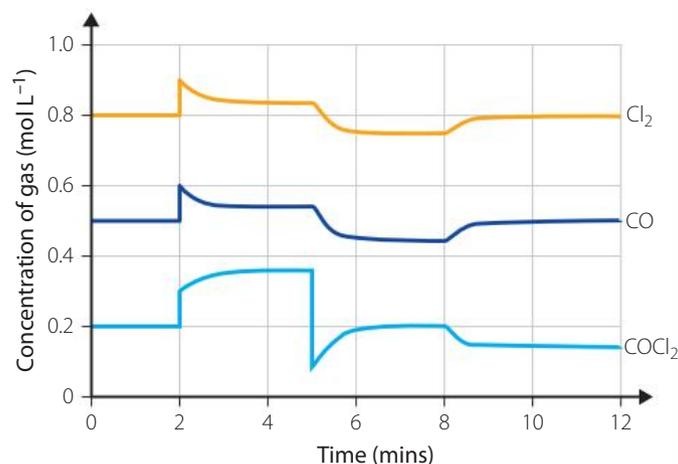

FIGURE 2.22 Closed system of a mixture of gases
- 10 A closed system consisting of a mixture of the gases CO , Cl_2 and COCl_2 was monitored over time (Figure 2.22).